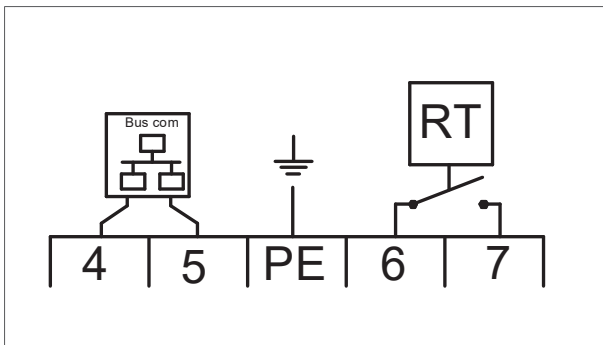

Figure 4 - Bus communication connection
1. Connect the two control wires to terminals 4 and 5 (see figure 4 or the electrical wiring diagram in §11).